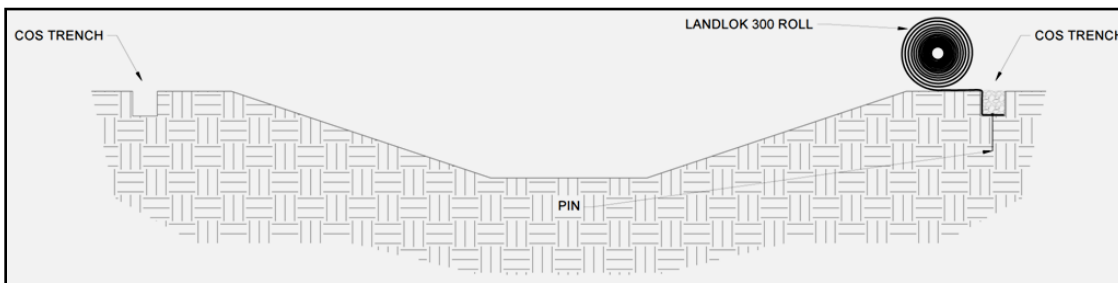

Figure 9: Crest of Slope (COS) Trench Placement
4. Secure Landlok 300 with pins in the COS trench (Figure 9). Suggested placement of pins for the COS trench is along the bottom of the trench on 12 in (300 mm) centers. Pins should also be installed on panel edge overlaps in the COS trench.
5. Backfill and compact the COS trench in the location of the first Landlok 300 panel only (Figure 9).